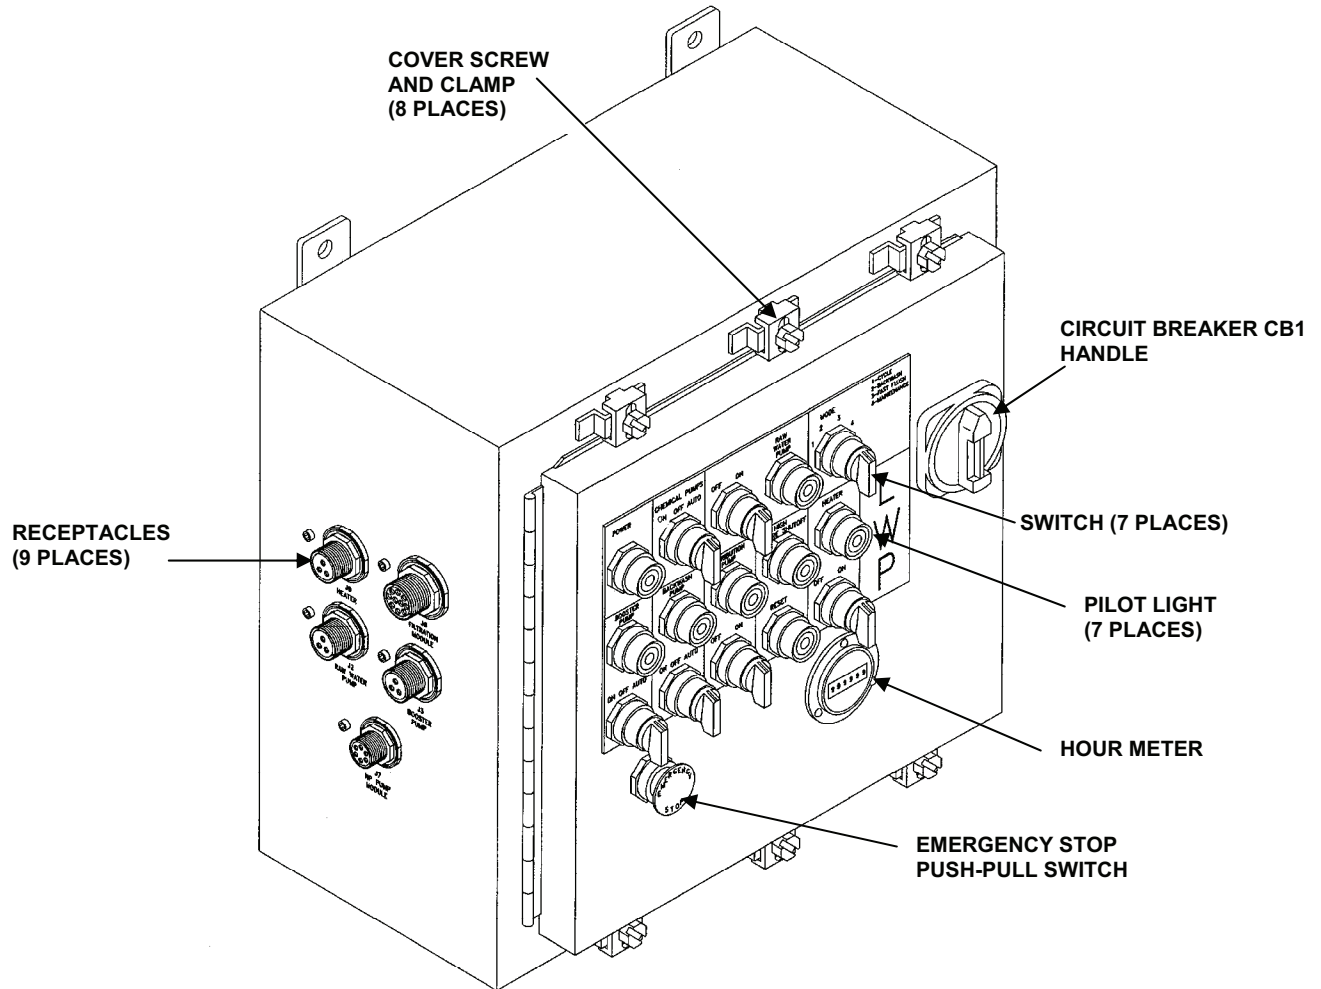

Figure 1. Control Module.
2. Unscrew eight (8) screws on the cover clamps. Slide clamps away from panel. See Figure 1.